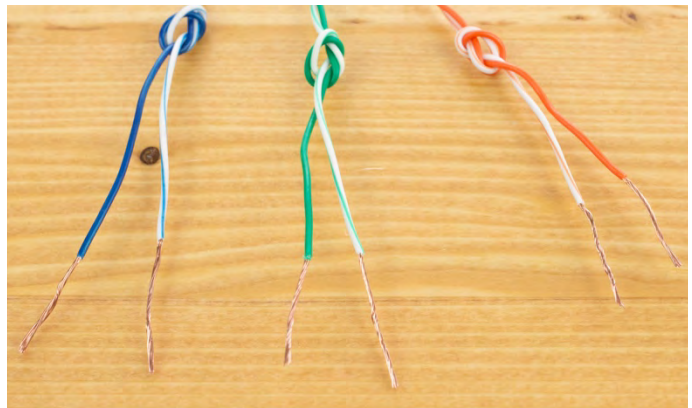

Figure 13
- ❑ Repeat for all colors of the solid and white striped wires. (Figure 13)